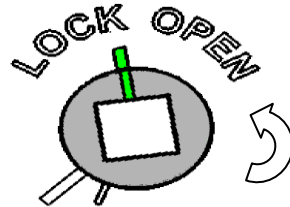

Figure 2
3. Turn cam counterclockwise until lock opens. The cam should be lined up with the "LOCK OPEN" line on the cover (see figure 2).